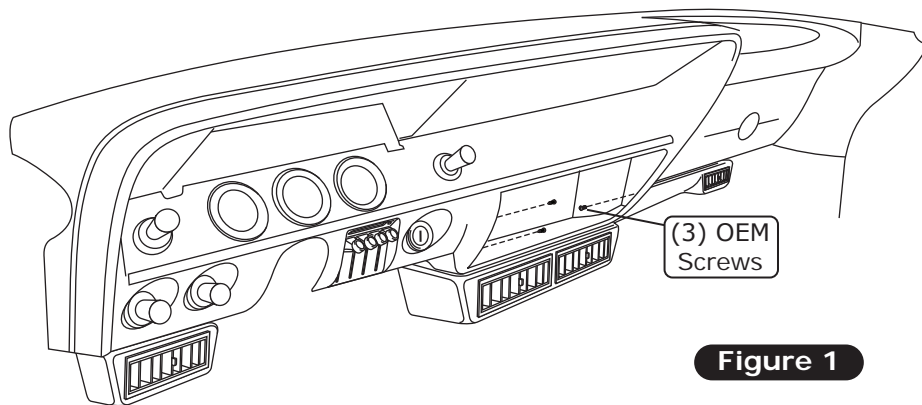

Figure 1
3. Install supplied glove box, and secure using (3) OEM screws through the OEM holes as shown in Figure 1, below.